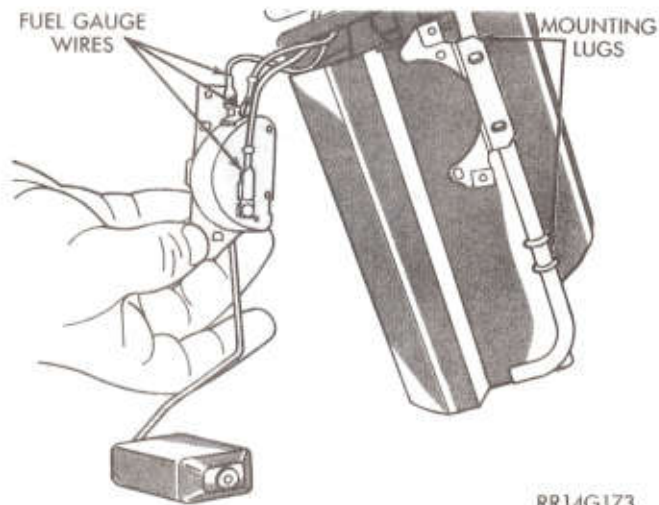

Fig. 4—Fuel Gauge Sending Unit Wiring Terminals
(2) Carefully, disconnect electrical wires from sending unit (Fig. 4). Remove sending unit.
(8) Snap the drain tube into the lugs on the bottom of the reservoir.
(9) Connect electrical wires to new sending unit. (Fig. 4).
(10) Align index tab on new level unit with index hole on mounting bracket.